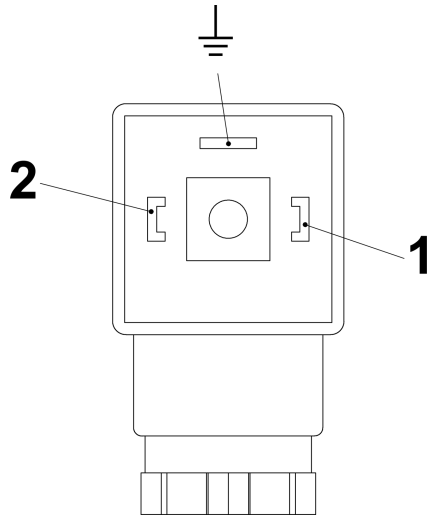
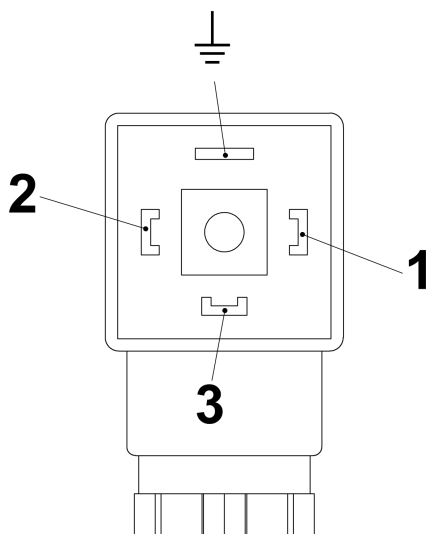

Fig. 26: Pin assignment, plug socket, normally open contact (SG-30 with connector in compliance with EN175301-803)
Fig. 27: Pin assignment, plug socket, change-over contact (SG-30 with connector in compliance with EN175301-803)
6. → Make the connections as shown in the connection diagram (Fig. 26 and Fig. 27).